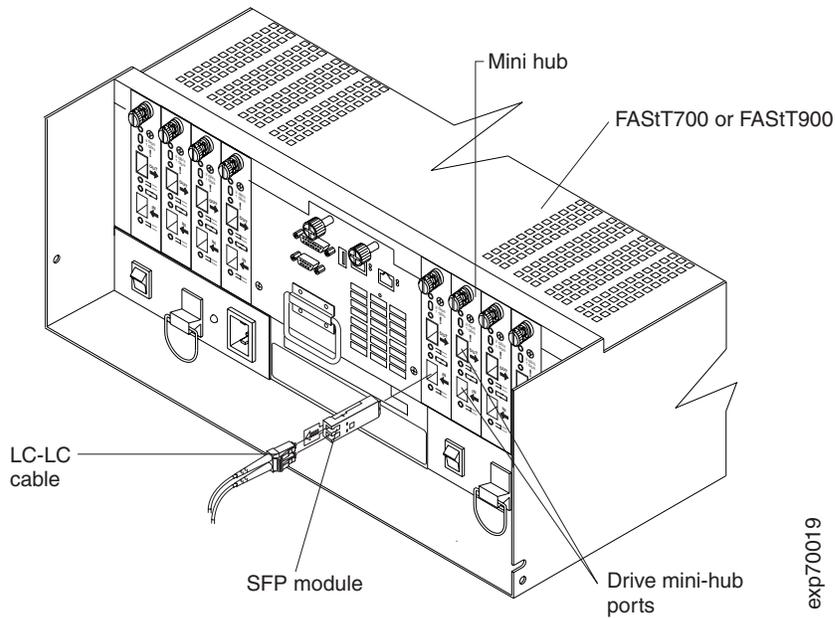

Figure 49. Installing an SFP module and LC-LC cable in a FAST700 or FAST900
2. Connect an LC-LC fiber-optic cable into the SFP module, as shown in Figure 49 on page 58.